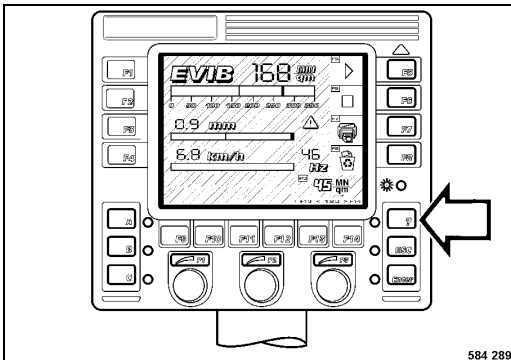

Fig. 85
- Press "?" (Fig. 85) to change to the menu screen.